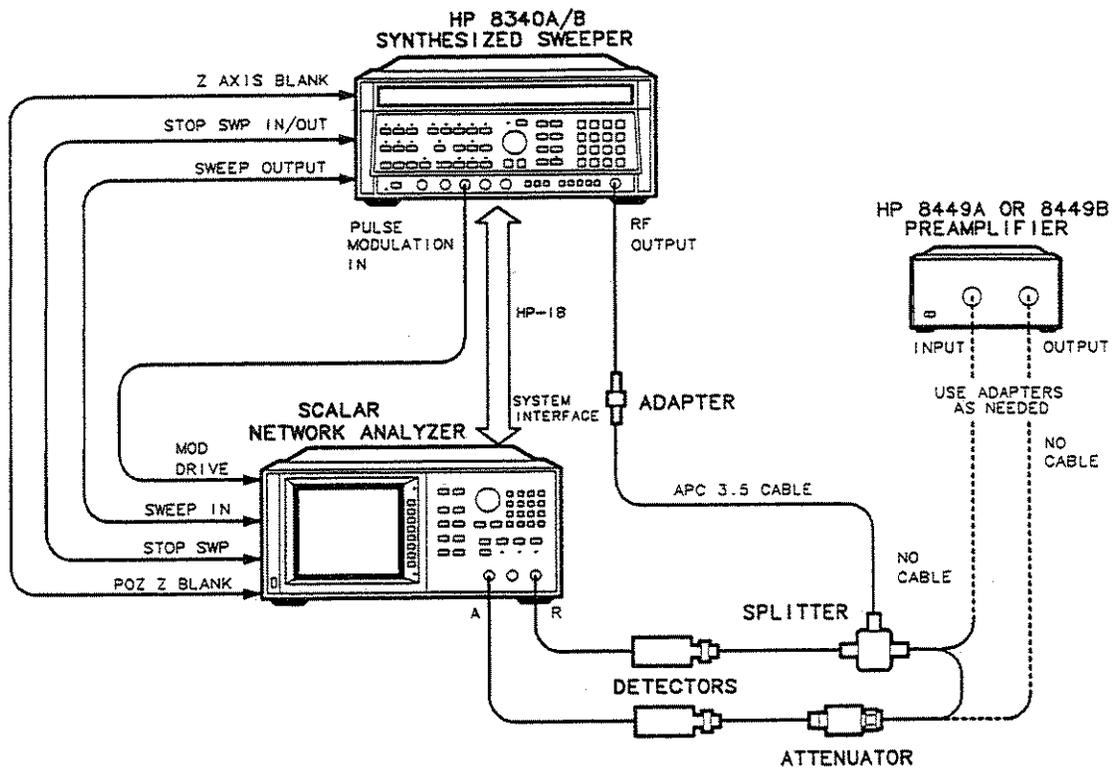

Figure 4-1. Gain and Flatness Test Setup
This test measures the gain and flatness of the preamplifier over its frequency range. First, the synthesized sweeper and scalar network analyzer are connected without the preamplifier in the circuit in order to establish a reference level. The preamplifier is then added to the circuit and the gain is compared to the original reference level. The flatness is measured as the change in gain across the frequency range. The test setup is illustrated in Figure 4-1.
1. Connect the test equipment as shown by the solid lines in Figure 4-1 (no connections are made to the preamplifier at this time).
5. Connect preamplifier to test equipment as shown by dashed lines in Figure 4-1: